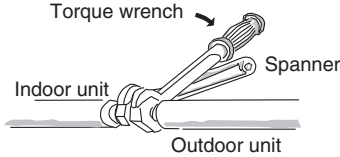

Fig. 5-6
- (1) Tightly connect the indoor-side refrigerant tubing extended from the wall with the outdoor-side tubing.
- (2) To fasten the flare nuts, apply specified torque as shown in the table below.
- When removing the flare nuts from the tubing connections, or when tightening them after connecting the tubing, be sure to use 2 adjustable wrenches or spanners. (Fig. 5-6) If the flare nuts are over-tightened, the flare may be damaged, which could result in refrigerant leakage and cause injury or asphyxiation to room occupants.